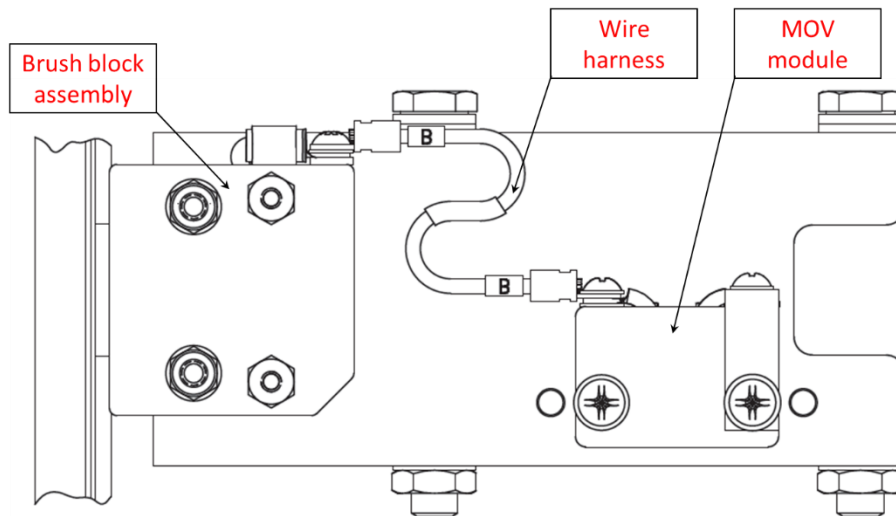

Figure 3: MOV Module Wire Routing
- v. Attach wiring harness between MOV module and brush block assembly as follows. Route the wire harness similar to Figure 3.